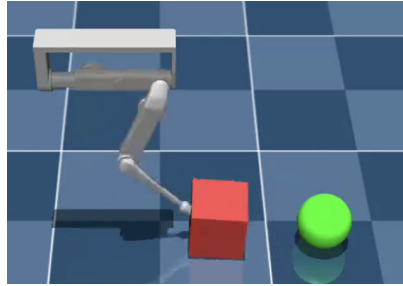

Figure 1: Finger pushing a box (red) to a final target (green)
In the final project, the goal is to control a finger robot shown in Fig. 1 to push the red box to the final (green) target (use the robot model from the MuJoCo tutorial session). As discussed in the class, to control the robot, we need to build a forward simulation of the robot with contact.
- (a) (10 points) Find a policy that pushes the object to a desired target (green in Fig. 1) in the forward direction.